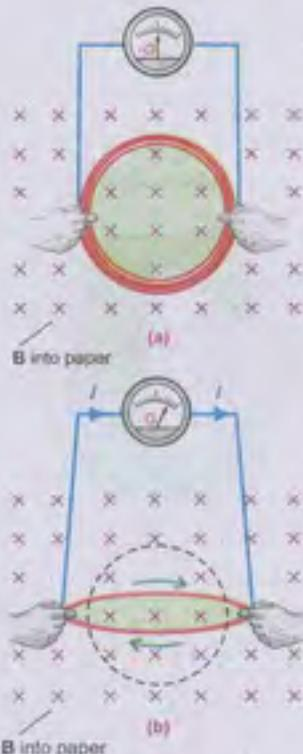

Fig. 15.3
- There is another method in which the current is induced in a coil by changing the area of the coil in a constant magnetic field. Fig. 15.3 (a) shows that no current is induced in the coil of constant area placed in a constant magnetic field. However, when the coil is being distorted so as to reduce its area, (Fig. 15.3 b) an induced emf and hence current appears. The current vanishes when the area is no longer changing. If the distorted coil is brought to its original circular shape thereby increasing the area, an oppositely directed current is induced which lasts as long as the area is changing.